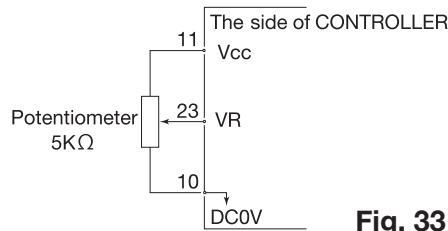
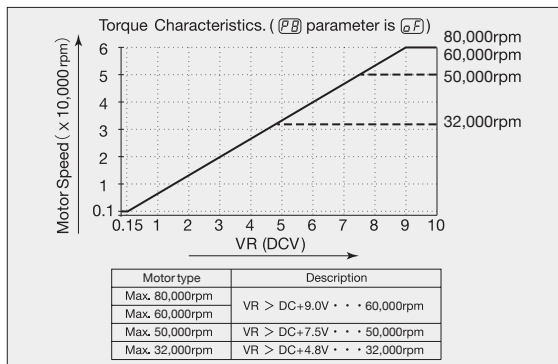

Fig. 33
Fig. 35
Rotation Speed can be selected by, applying analog voltage to the "Motor Speed Control Voltage (VR)" Refer to Fig. 33, 34 for connections. Refer to Fig. 35, 36 about relationship between Motor Speed and Control Signal.